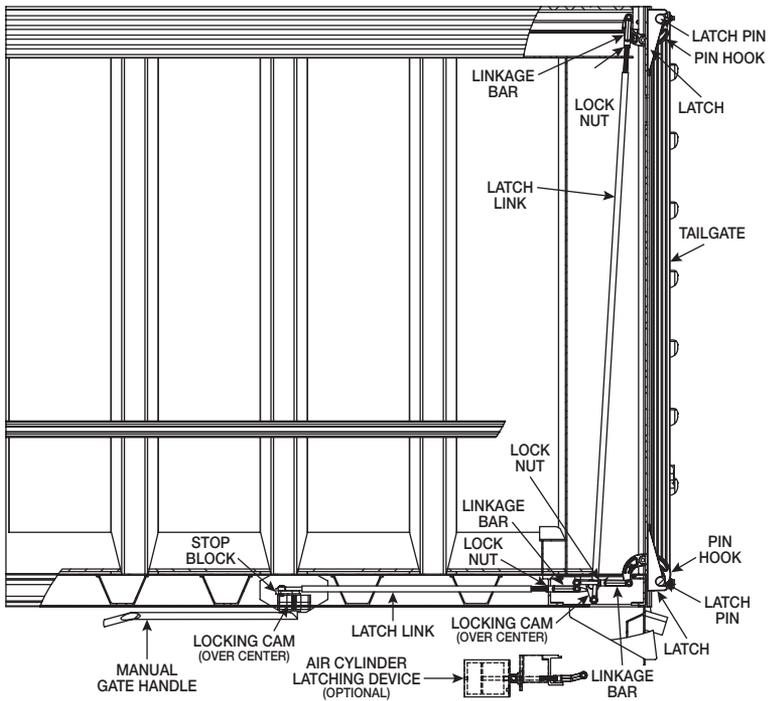

Figure 1: Tailgate Latch Adjustment
- Open and close the tailgate latches to check both latches for proper operation. The tailgate latch pins should be clamped firmly and the small end of each locking cam, Figure 1, must snap into position against the cam stop block. If either latch pin is not tightly clamped, or the locking cam does not lock above center, adjust the tailgate latch according to the following procedure.